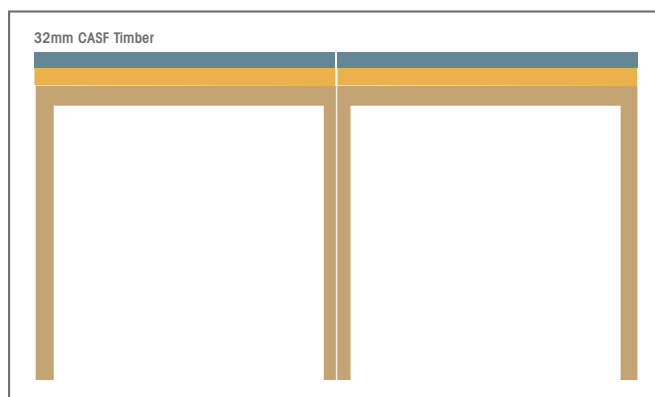
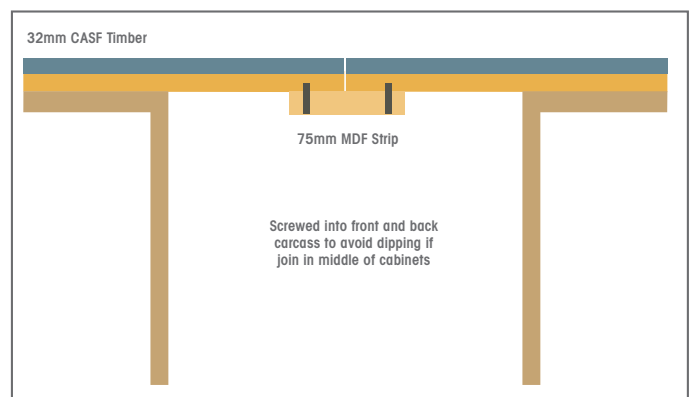

Fig. 4 Strongly recommended position
Fig. 5 (not advisable) Join in middle of unit with MDF strip (if recommended position not possible)
- Always cut so the joint sits on the end panel of the cabinet wherever possible (Fig. 4), enabling benchtops to be joined on a gable end not in the middle. This gives added support to a join and a stronger area for leveling up the surface to achieve a flush join. Where this isn't possible an MDF strip (75x25mm) should be secured below the join to give added support (Fig. 5).